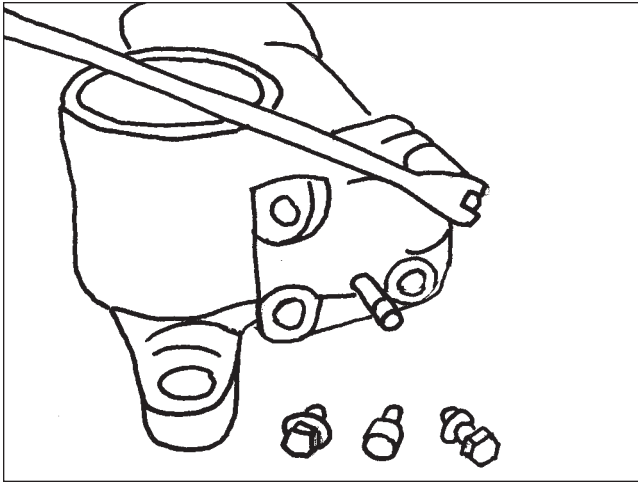
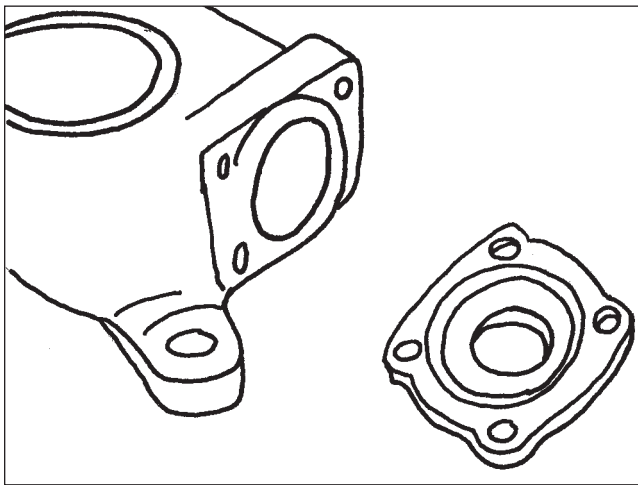

Figure 94
Figure 95
10. Remove the cylinder head and discard both the seal ring and the tetra seal (Figure 94 & Figure 95).